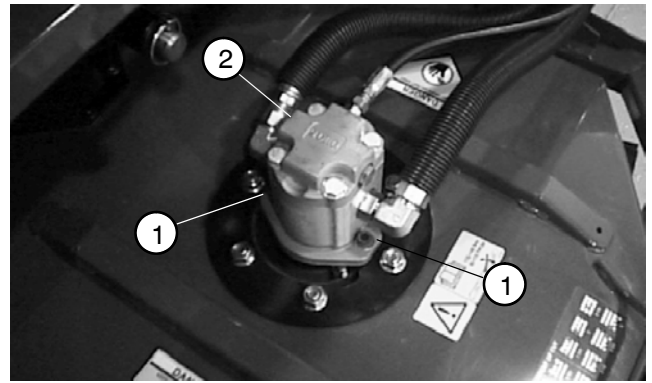

Figure 4
2. Remove two socket head screws that secure hydraulic motor to the cutting unit (Fig. 4). Remove hydraulic motor and O-ring from deck.